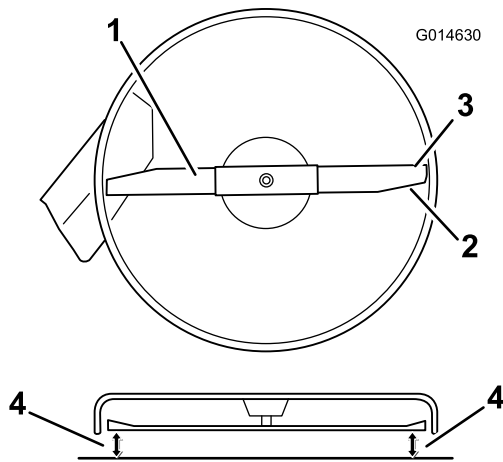

Figure 49
4. Carefully rotate the blade so that they are all side to side (Figure 49).
5. Measure between the outside cutting edges and the flat surface (Figure 49). If both measurements are not within 5 mm (3/16 inch), an adjustment is required; continue with this procedure.